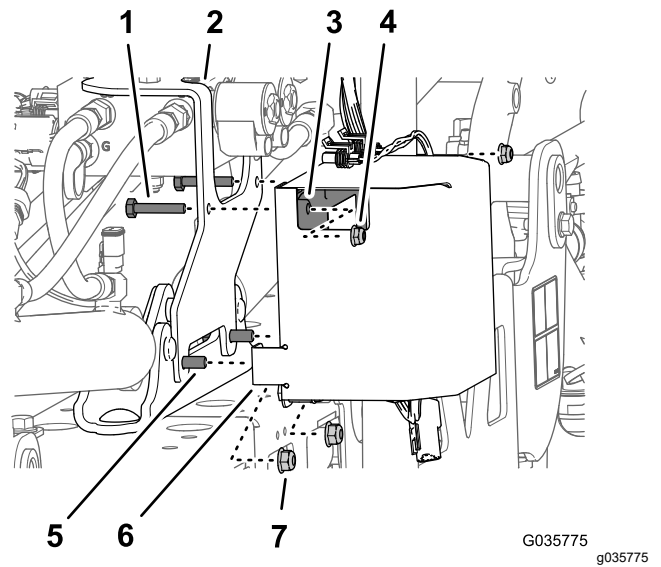

Figure 30
3. Remove the 2 flange locknuts (5/16 inch) that secure the mounting bracket of the ultra sonic boom finishing kit from the cylinder mount (Figure 30).
4. Assemble the controller cover (Figure 30) onto the flange-head bolt (5/16 x 1 inch) at the lower forward holes in the cover, and loosely secure the cover, bracket and mount with the 2 flange locknuts (5/16 inch) that you removed in 3.
5. Assemble the 2 bolts (1/4 x 1-3/8 inches) through the upper holes in the mounting bracket (ultra sonic boom finishing kit), rear flange (controller cover), and controller (Figure 30) with the 2 flange locknuts (1/4 inch).